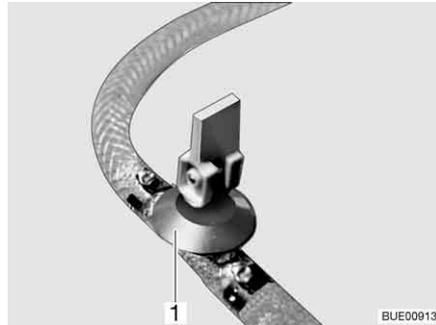

Fig. 197 Drain cock
- Close the drain cock(s). Position the rocking lever (Fig. 197,1) horizontally.
- Open drain cock(s) (Fig. 197). To do so, set the rocking lever (Fig. 197,1) in a vertical position. The boiler is drained to the outside.